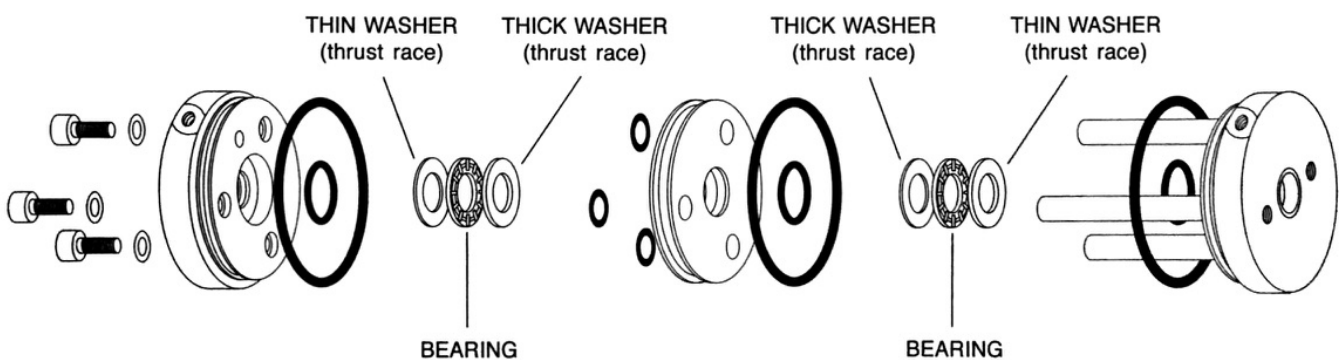

**Figure 5:**
9. Take care to hold the rest of the subassembly together, and slide the O-ring plate off the drive shaft. **(Figure 5)** (If the sub-assembly comes apart despite your caution, reassembly instructions are provided at the end of this procedure.)